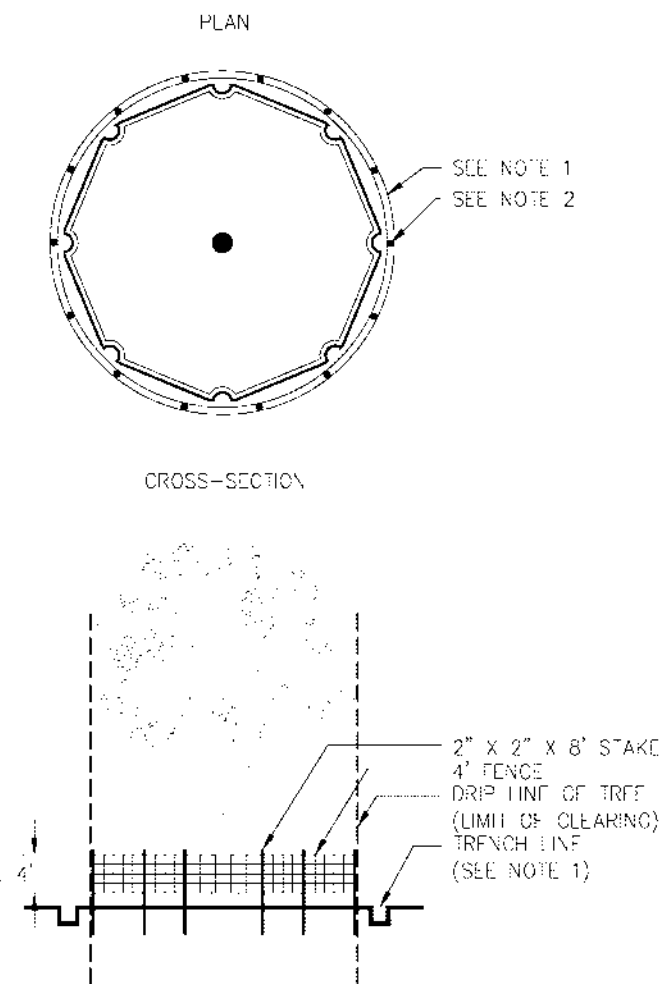

Figure 6-38.1
1. For areas of large remnant forest to be protected use 4 feet high orange plastic fabric fencing stapled in three locations to treated wood 2x4 stakes. Set stakes 6 feet on center. Rebar is not to be used for stakes. Figure 6-38.1